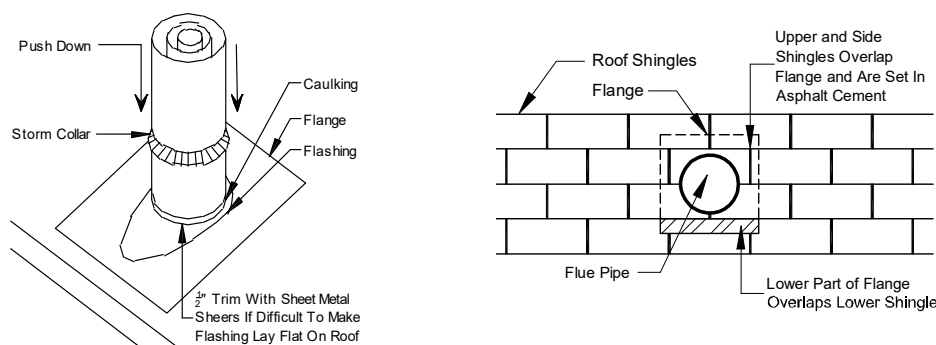

Figure 93. Roof flashing and shingle installation around chimney
5. **Complete shingles.** Cut shingles in successive courses to fit around the pipe and embed them in asphalt cement where they overlap the flashing. Secure shingles with roofing nails through flashing and apply asphalt cement over nail heads. The completed installation should appear as shown in **Figure 93**, with the lower part of the flange overlapping the lower shingles and the side and upper shingles overlapping the flange.